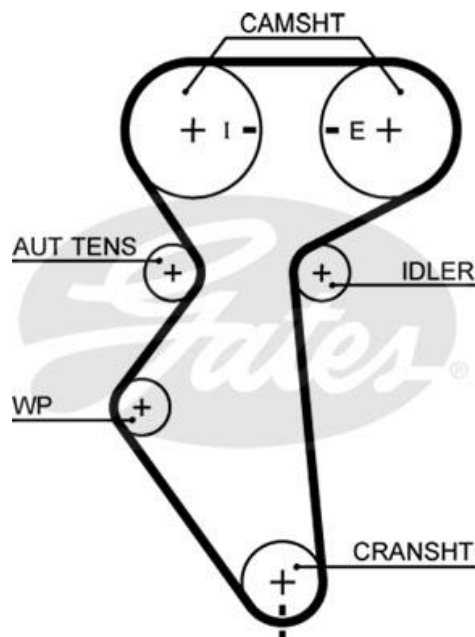

Fig. 1
On this drive, the main failure is caused by not rotating the water pump at installation, needed to set the correct belt tension. Although the drive is equipped with an 'automatic' tensioner, this still has to be set up correctly. This drive requires manipulation of the eccentric water pump, located below the tensioner (Fig. 1).
2. Put engine at TDC: rotate the crankshaft clockwise until the timing mark on the crankshaft gear is aligned with the notch at the bottom of the rear timing belt cover, and align the timing marks on the camshaft gears (Fig 1). Block the camshafts with Gates multi-lock tool (GAT 4695).